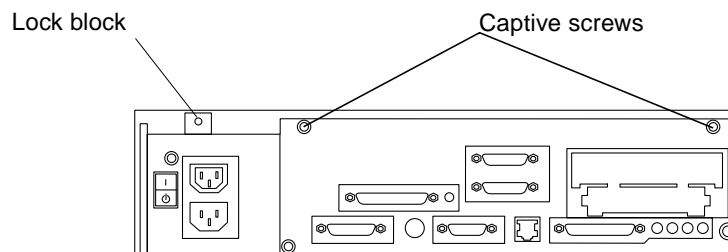

Figure 2-2 Location of Lock Block
2. Use a Phillips screwdriver to remove the lock block (if installed) on the cover (Figure 2-2).
3. Loosen the captive screws securing the cover with a Phillips screwdriver. (Figure 2-2).
4. Replace the lock block with a Phillips screwdriver (Figure 2-2).